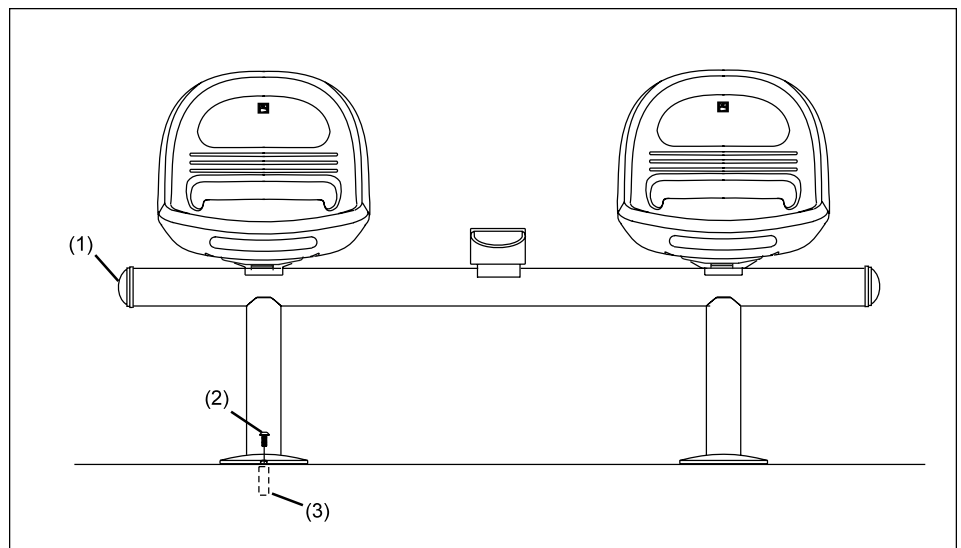

Figure 32. Secure Seating to the Floor
3. Reposition the assembly over the floor fasteners and secure the assembly to the floor with four 3/8-16 x 3/4" button head cap screws. Refer to *Figure 32*.